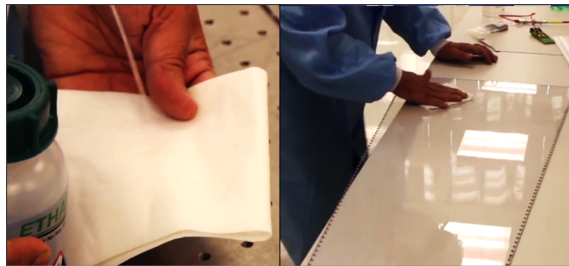

Figure 78: Cleaning the Plexiglas cover (2).
Step 2: Clean the cover with a clean piece of tissue using ethanol (Fig. 78).